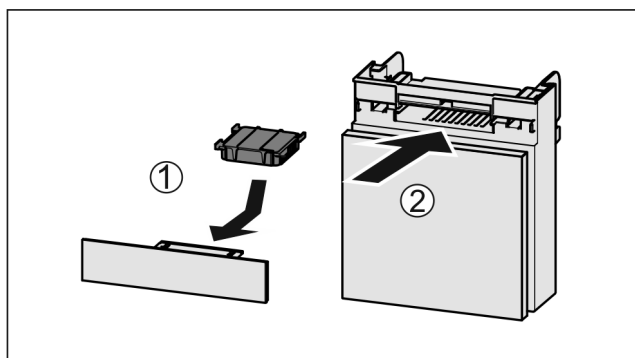

Fig. 127
- Insert the carbon filter as shown in the diagram Fig. 127 (1).
- Push the compartment in Fig. 127 (2).